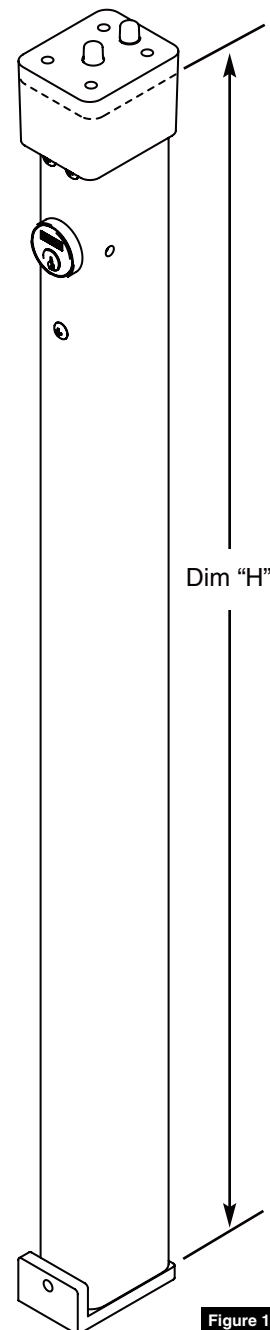

Figure 1
5. Install top retainer using four (4) 1/4-20 x 5/8" flat head screws. (Figure 1 on page 1)
1. Measure distance (Dim H) between inside surface of top retainer and top of bottom retainer surface. (Figure 1 on page 1)
2. Cut off bottom of mullion body to desired length (L), using formula: